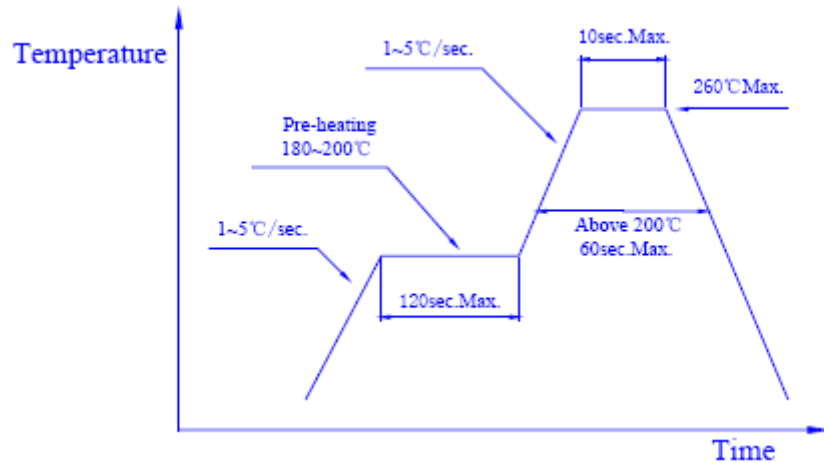

Fig.3
a. The temperature profile as shown in Fig.3 is recommended for soldering SMD LED by the reflow